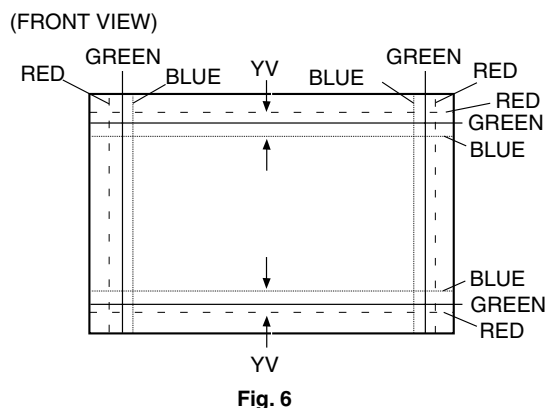

Fig. 6
2. Using the  $Y_V$  VR on the deflection yoke, match the  $Y_V$ . (Fig. 6 and 8)